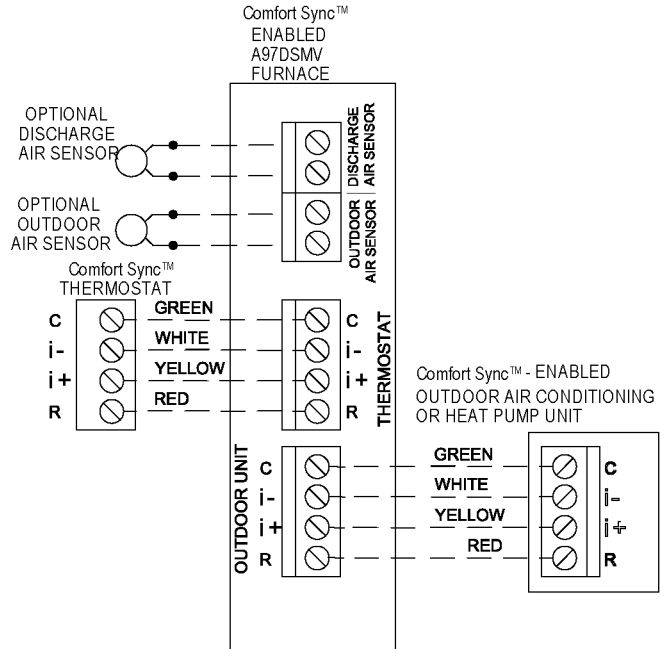

Figure 45
7. One line voltage "EAC" 1/4" spade terminal is provided on the furnace integrated control. Any electronic air cleaner or other 120V accessory rated up to **one amp** can be connected to this terminal with the neutral leg of the circuit being connected to one of the provided neutral terminals. See Figure 45 for location of terminal. This terminal is energized when the indoor blower is operating.